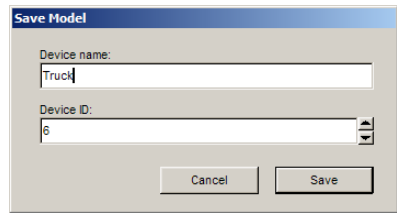

Figure 6.12. Saving a device model
4. If the device model is finished and the new tracking device is to be used in practice, press the “Save” button in order to store the model. A dialog as given in Figure 6.12 appears asking you to enter a model name and ID. Please enter a unique name, select a device ID, and press “Save”.